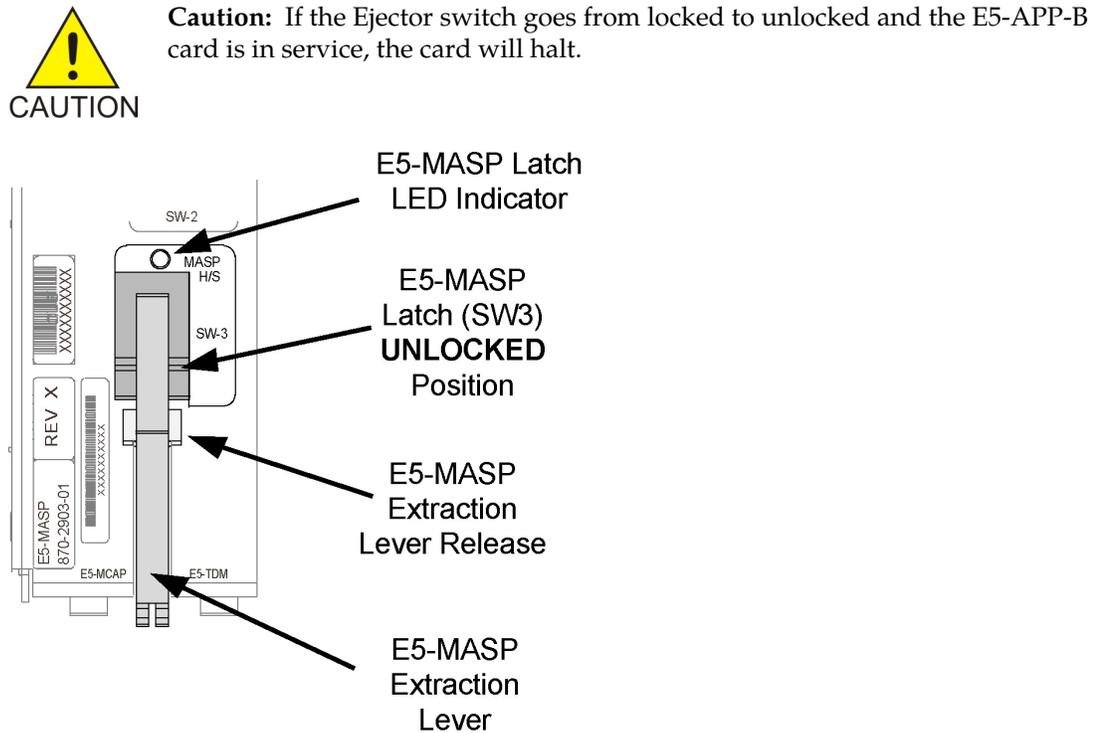

Figure 25: E5-MASP Card Inject/Eject Hardware Switch, UNLOCKED
- a) On the standby E5-MASP card determined in Step 6, slide the MASP H/S switch (SW3) up to the UNLOCKED position (see Figure 25: E5-MASP Card Inject/Eject Hardware Switch, UNLOCKED).